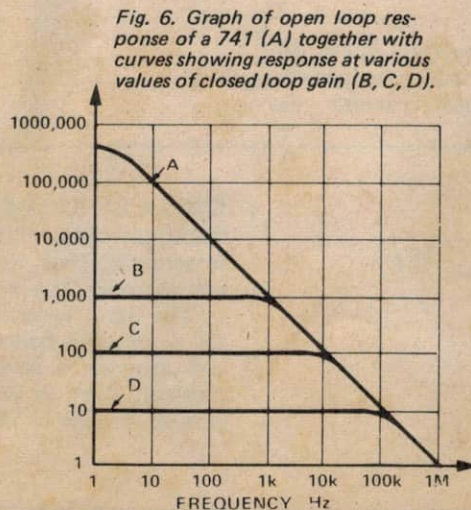

Fig. 6. Graph of open loop response of a 741 (A) together with curves showing response at various values of closed loop gain (B, C, D).
For example, if you want the amplifier to have a gain of 100, then the maximum frequency at which this gain can be obtained is 10 kHz. Figure 6 illustrates this phenomenon. Curve A is the open loop response, note that the voltage gain is 1 at 1 MHz, hence the gain bandwidth product of 1 MHz. The slope of the curve is -20 dB/decade, which is caused by a single 30 pF capacitor inside the IC. Now, if the resistor ratio is set to give a voltage gain of 100, then the op-amp gives a frequency response shown by curve C, which is flat up until 10 kHz. A gain off 10 rolls off at 100 kHz (D) and a gain of 1 000 rolls off at 1 kHz (B). Thus it is very easy to see just what the closed loop frequency response will be. However, don't forget the slew rate problem. You may be able to construct an amplifier with a voltage gain of 10, which works up to 100 kHz, but the output voltage will be limited to less than 3 Vpp! Another problem is distortion in the op-amp. Negative feedback is used to iron out any distortion generated by the op-amp, but negative feedback relies on there being some spare voltage gain available. For instance, say the op-amp generates 10% distortion and there is a surplus voltage gain of 1 000,